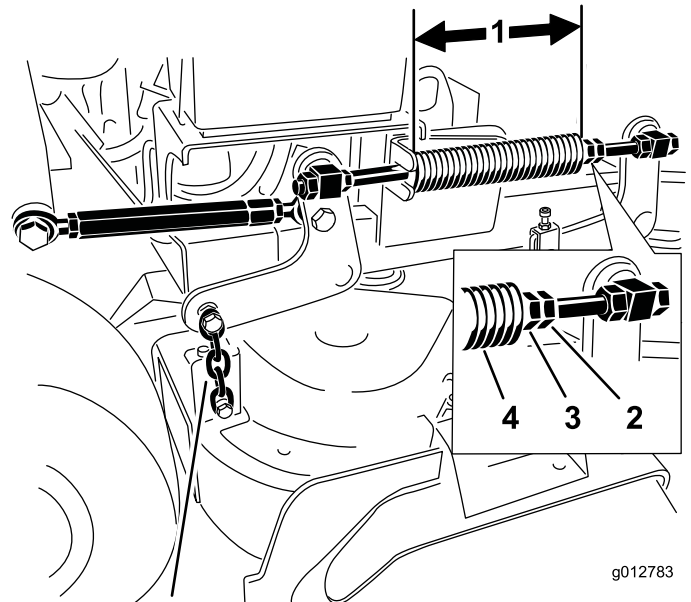

Figure 89
inch mower decks and 10-1/8 inches (25.7 cm) for 40 inch mower decks (Figure 89).
- Adjust this distance, by loosening the spring jam nut and turning the nut in front of each spring (Figure 89).
- Lock the nut into position by tightening the spring jam nut (Figure 89).